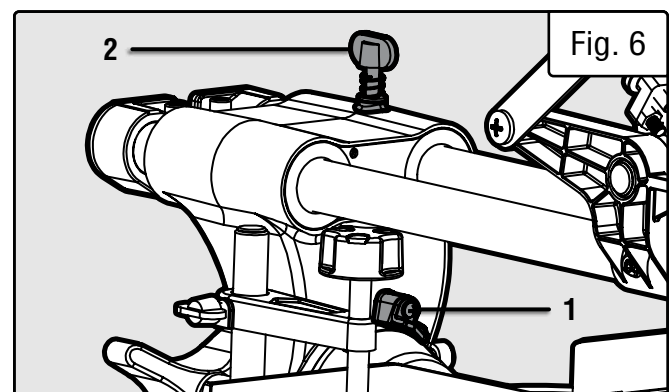

Fig. 6
3. Tilt the saw arm until the bevel angle indicator (Fig. 6 - 1) points to the desired angle on the bevel scale.
For sliding cuts: Loosen the sliding bar lock knob (Fig. 6 - 1) and slide the saw arm to desired position.